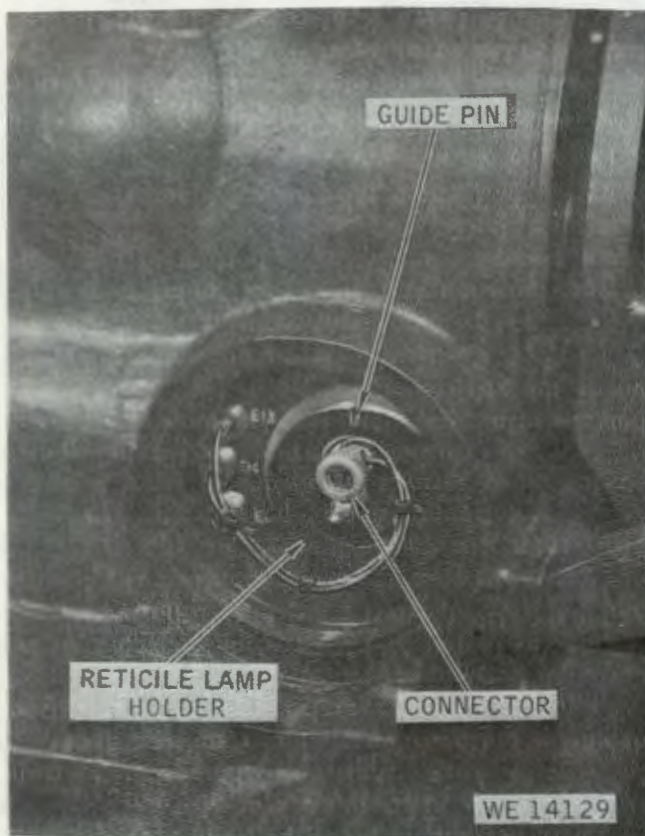

Figure 3-13. M61 sight reticle lamp holder installed.
(1) Unscrew the reticle lamp assembly cover (fig 3-12) to gain access to the reticle lamp holder (fig 3-13).
(2) Unplug the connector (fig 3-13) and remove the reticle lamp holder (fig 3-12) from the housing.
A guide pin is provided on the lamp housing to properly align the reticle lamp holder in the housing (fig 3-13).
(5) Connect the connector to the reticle lamp holder (fig 3-13).